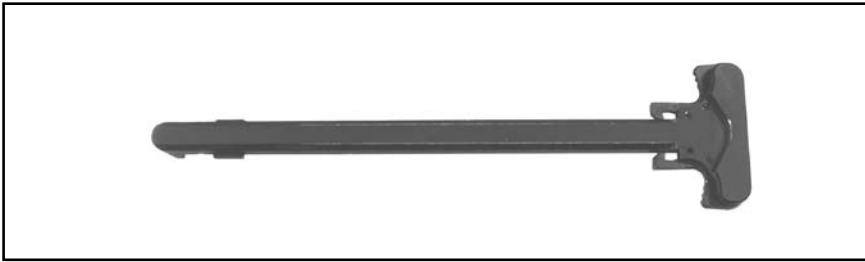

Fig. 58 – Lubrication of MR762A1 Charging Handle
6. Apply a medium coat of CLP to the interior and exterior surfaces of the charging handle (Fig. 58).